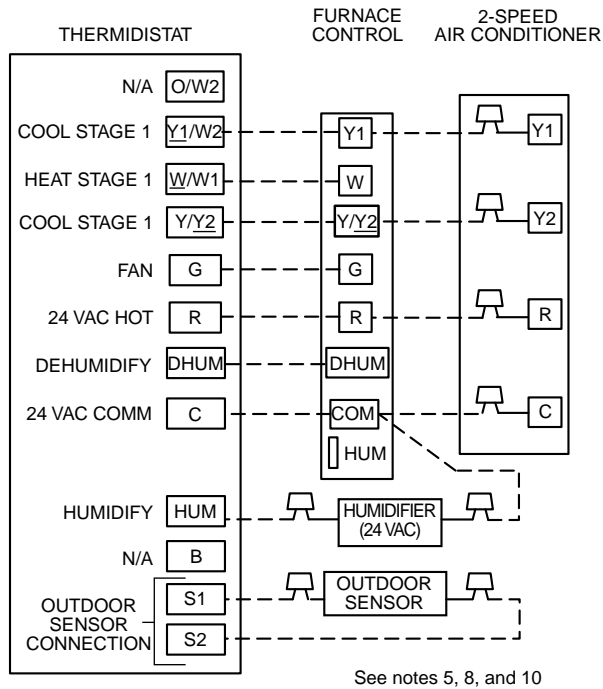

Fig. 11—Single-Stage Furnace with 2-Speed Air Conditioner
- c. Two-Speed Outdoor Unit with Thermidistat—See Figure 11 and 13.